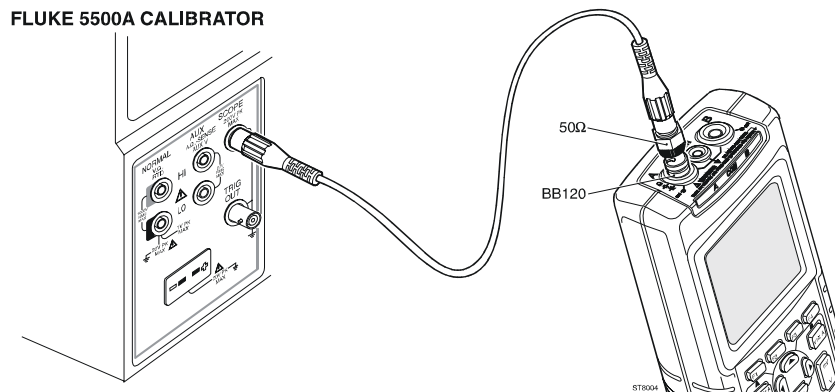

Figure 4-2. Test Tool Input 1 to 5500A Scope Output 50Ω
1. Connect the test tool to the 5500A as shown in Figure 4-2.
1. Connect the test tool to the 5500A as for the previous test (see Figure 4-2).